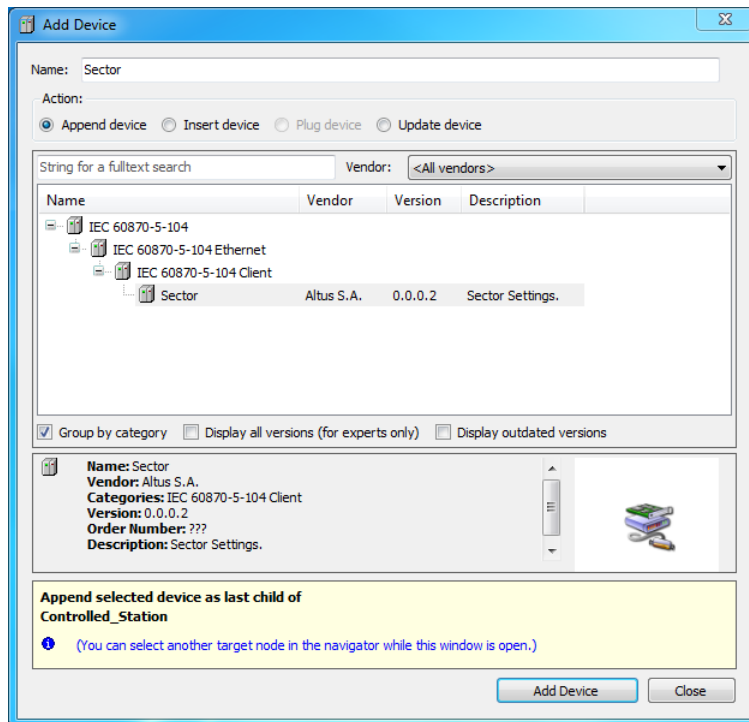

Figure 99: Insert screen of a Sector below a Controlled Station IEC 60870-5-104 Device
5. Add and configure sectors below the Controlled Station device, as shown in the figure 99. There is a maximum limit of 5 sectors for each device.